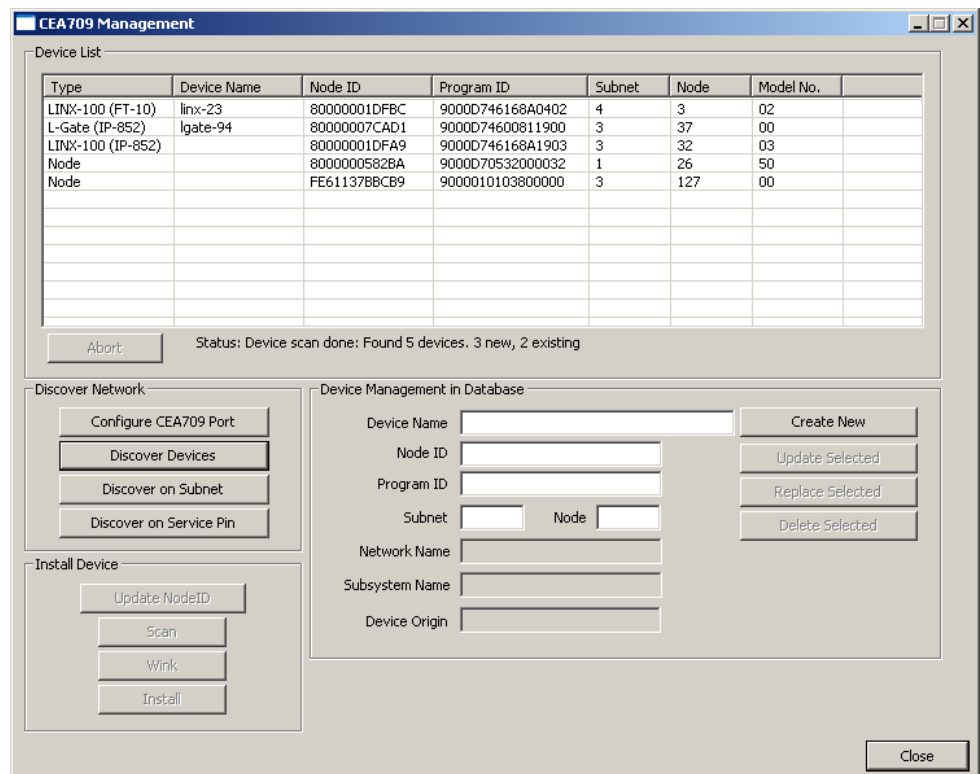

Figure 80: CEA-709 network scan dialog.
3. Right-click on that folder and select **Scan CEA709/852 Network...**. This opens the **CEA709 Management** dialog as shown in Figure 80.